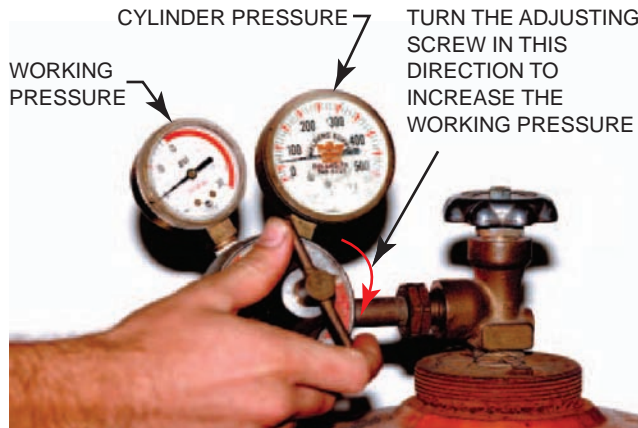

FIGURE 3-57 Adjust the regulator to read 5 psig (0.35 kg/cm²g) working pressure. Courtesy of Larry Jeffus.
6. After purging is completed, and with both torch valves off, adjust both regulators to read 5 psig (35 kPag), Figure 3-57.